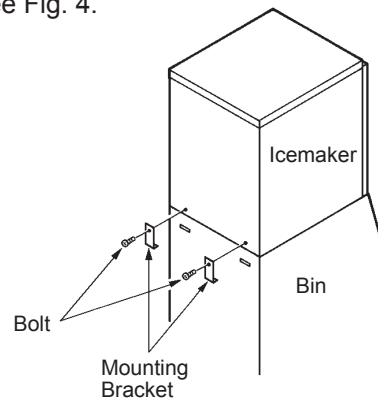

Fig. 4
4) Secure the icemaker to the Storage Bin, by using the two mounting brackets and two bolts provided. See Fig. 4.